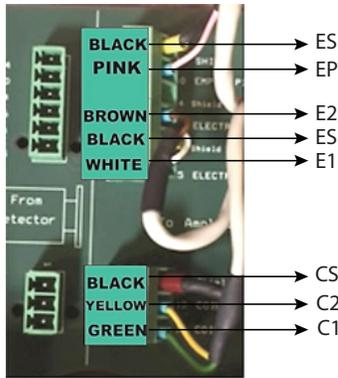

Figure 2: M2000 connector cable wires
3. Connect the cable wires in the junction box. See Figure 2 on page 2. **DO NOT ROUTE THE WIRES UNDER THE JUNCTION BOARD.**